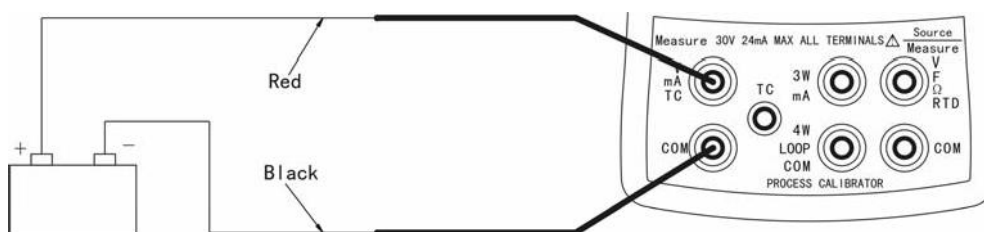

Figure5-1 Measuring Voltage (Upper Display)
- (1) Press  until the upper display shows "mV" or "V".
- (2) Connect the test leads as shown in Figure5-1.